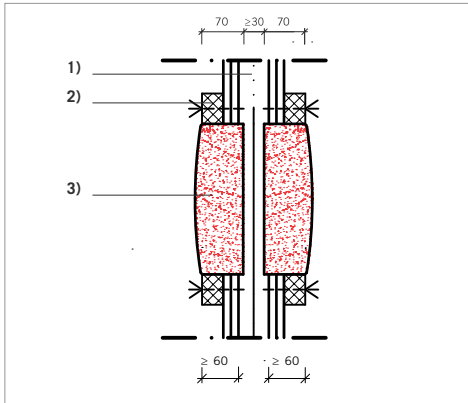

Fig. 1:
- / In the area of the component opening, a board frame of non-flammable drywall, silicate or calcium silicate boards (class A2-s1, d0 or A1 in accordance with EN 13501-1) must be provided so that the ZZ-Plugs NE rest at least 60 mm on the board frame or wall planking. (s. Fig 1)